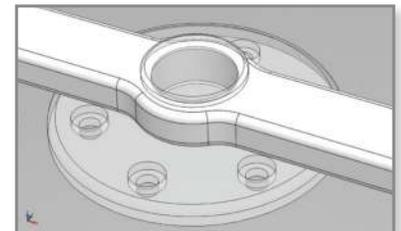

Figure 2: Properly aligned assembly components.
To achieve the most accurate fit, it is critical to position all mating components in the same manner relative to the XYZ axis (Figure 2). Choose an orientation for the entire assembly and build all components in the same orientation, as if they were assembled. Orient the mating surfaces in the X/Y plane whenever possible. The X/Y plane is the most accurate plane and is thus the best plane to orient critical mating surfaces.
**STEP 2:** Arrange components to create an assembly. Ensure the orientation matches the desired build orientation (Figure 2).